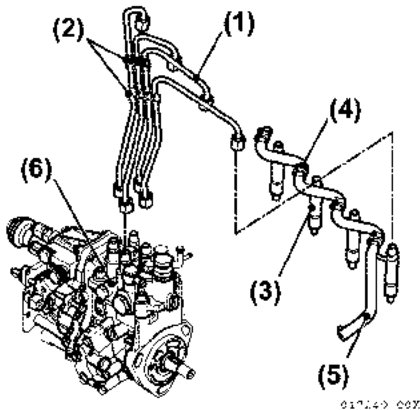
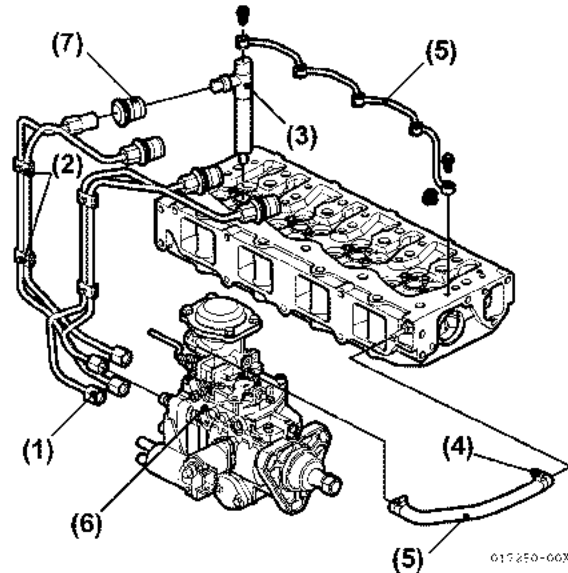

Figure 5-169
Figure 5-170
43. Mount the fuel return line (Figure 5-169, (5)) and (Figure 5-170, (5)).